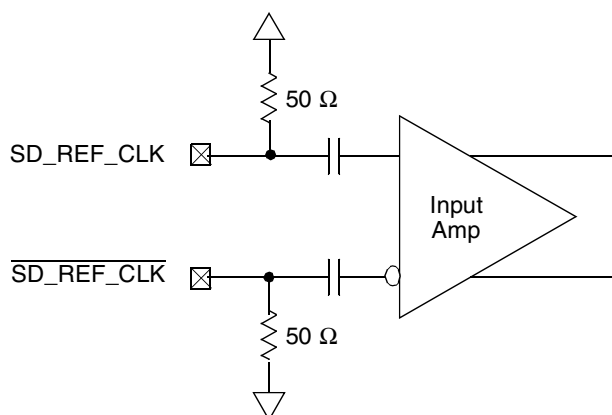

Figure 39. Receiver of SerDes Reference Clocks
Figure 39 shows a receiver reference diagram of the SerDes reference clocks.
- The  $SD\_REF\_CLK$  and  $\overline{SD\_REF\_CLK}$  are internally AC-coupled differential inputs as shown in Figure 39. Each differential clock input ( $SD\_REF\_CLK$  or  $\overline{SD\_REF\_CLK}$ ) has a 50- $\Omega$  termination to  $XCOREVSS$  followed by on-chip AC-coupling.